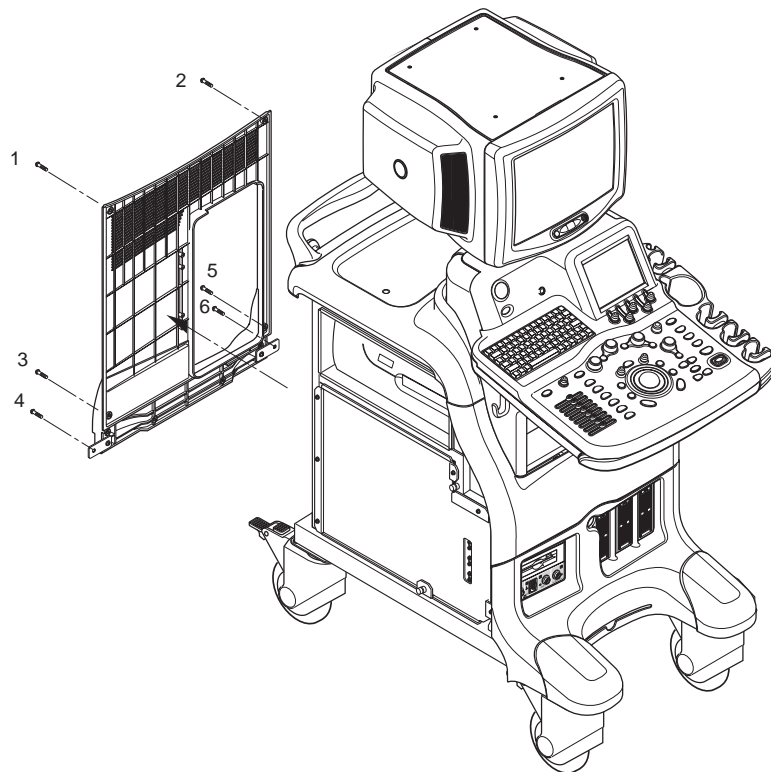

Figure 8-50 Removing the rear cover
- 4.) Remove the Rear Cover. Refer to Figure 8-50.